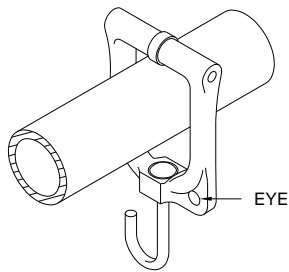

Fig. 4-1
2. Place the chain carriers with attached chain on the pipe with the eye facing toward the inside opening. (Fig. 4-1)